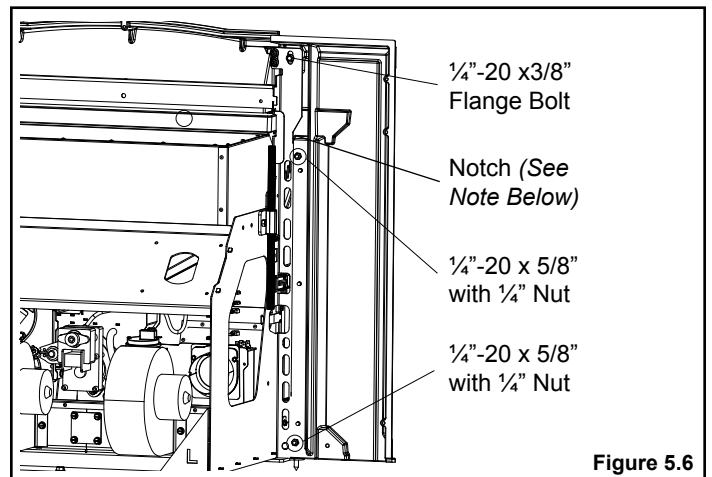

Figure 5.6
Using (1) 1/4"-20 x 3/8" flange bolt, (2) 1/4"-20 x 5/8" flange bolt and (2) 1/4"-20 nuts, install the left and right surround panels to the mounting frame. Leave these bolts loose until the entire surround assembly has been adjusted for proper clearance. Figure 5.6